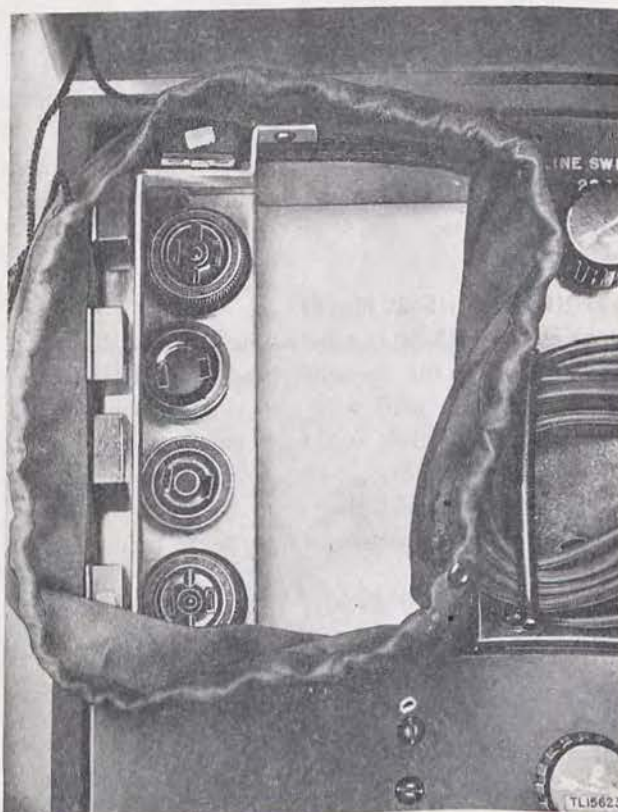
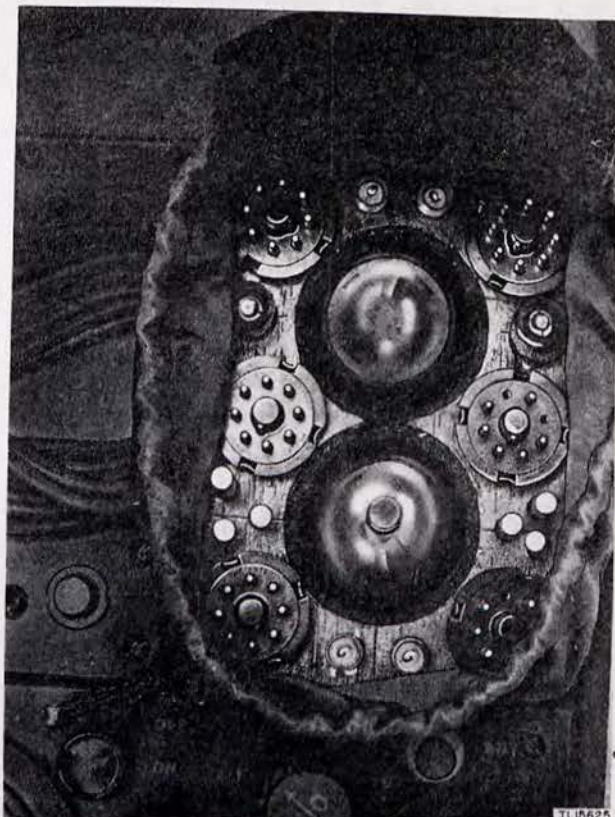

Figure 3. Adapters in left-hand compartment.
Figure 5. Right-hand accessory compartment.
a. The case housing Radio Set AN/PRC-1 ( ) is made of fabric-covered plywood. The case is of the strongest possible construction consistent with its reduced weight. The interior of the case is fitted with an aluminum framework and brackets for supporting the receiver, transmitter, and rectifier power unit of Radio Set AN/PRC-1 ( ) (fig. 8). In addition, two accessory compartments are provided. The left-hand accessory compartment (figs. 3 and 9) contains:
- (1) Adapters, set.
- (2) Antenna.
- (3) Headset.
- (4) Key.
b. The right-hand accessory compartment (fig. 5) contains:
- (1) Set spare tubes for receiver.
- (2) Set spare tubes for transmitter.
- (3) Spare rectifier tube for rectifier power unit.
- (4) Spare neon bulbs.
- (5) Spare dial and panel lamps.